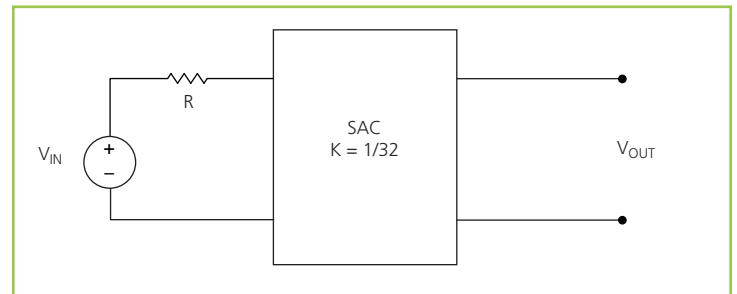

Figure 18 –  $K = 1/32$  Sine Amplitude Converter with series input resistor
$R_{OUT} = 0 \Omega$  and  $I_Q = 0 A$ , Eq. (3) now becomes Eq. (1) and is essentially load independent. A resistor R is now placed in series with  $V_{IN}$  as shown in Figure 18.
Assuming that  $R = 1 \Omega$ , the effective R as seen from the secondary side is  $0.98 \text{ m}\Omega$ , with  $K = 1/32$  as shown in Figure 18.